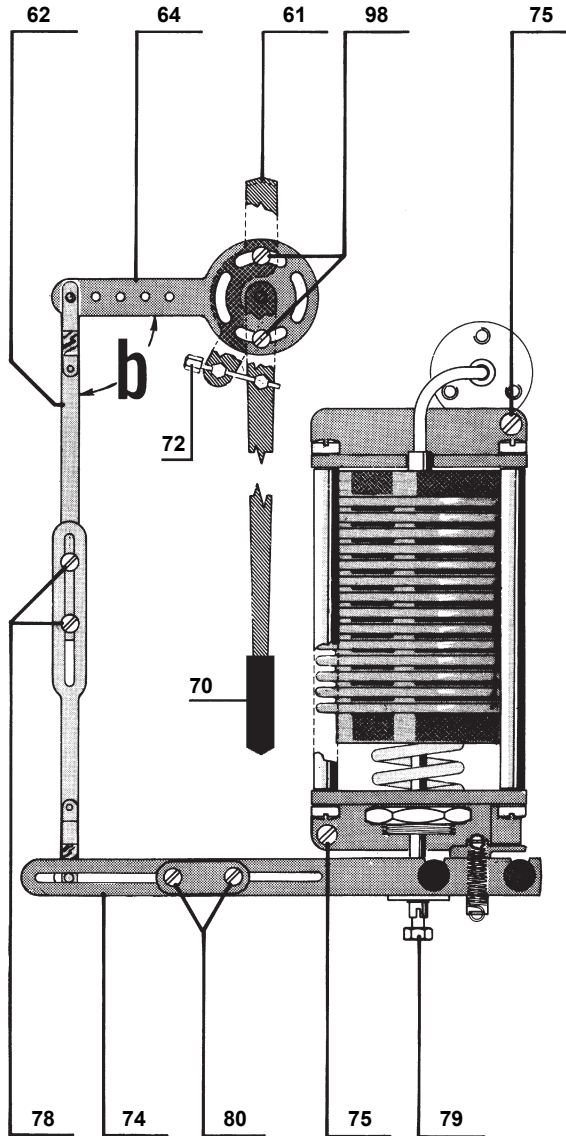
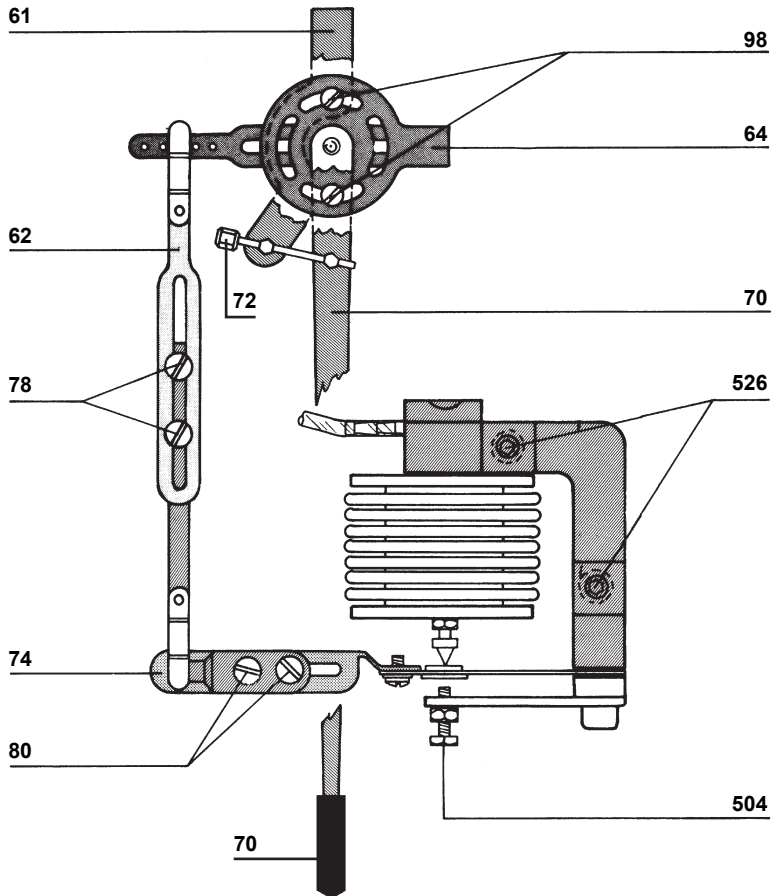

Fig. 15 - Elemento di misura a soffietto (bassa pressione o vuoto)
Fig. 16 - Elemento ricevitore per segnale pneumatico
Per la sostituzione si procede come segue; riferirsi alla Fig.14 per le spirali manometriche o termometriche, alla Fig. 15 per gli elementi manometrici a corpo molleggiante ed alla Fig. 16 per gli elementi ricevitori pneumatici.
*For the replacement act as follows and make reference to Fig. 14 for the thermometric or mano-metric elements, to Fig. 15 for bellows manometric systems, and to Fig. 16 for the pneumatic receiving unit.*
- 1) *Operating on circular chart recorder remove at first the diagram and the diagram plate loosening the fixing screws; disconnect the link (62) from the arm (74) acting delicately on the retaining spring and pulling the jointing ball out of its seat;*
- 2) *Loosen the two retaining screws (75) or (526) and other, if any, not seen in the drawings and fixing the measuring system to the instrument case bottom and remove the system itself from the case; pneumatic receiving elements must be disconnected by the pneumatic piping.*
- 4) *Restore the connection of the link (62) with the arm (74). Should this operation require a sensible mechanical effort, loosen a little the screws (78). Be careful introducing properly the retaining balls into their seats.*